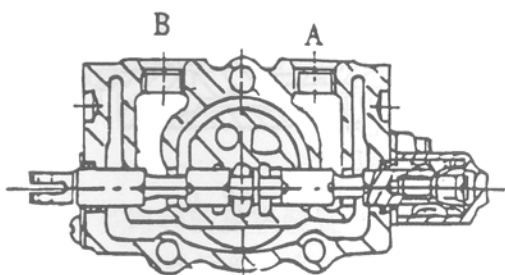

Fig 7.4 Impel Sliding Valve
(2) Impel sliding valve (see Fig 7.4)